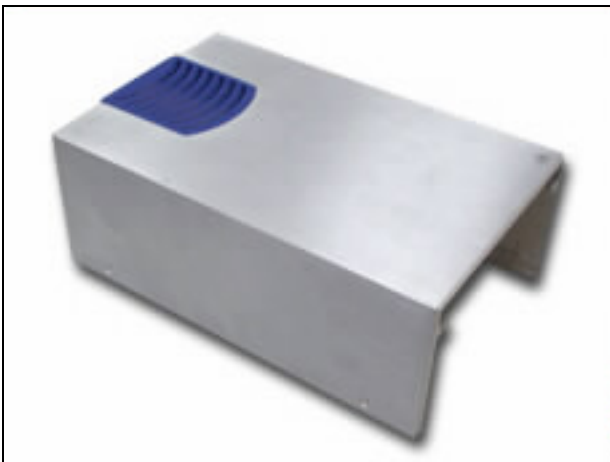
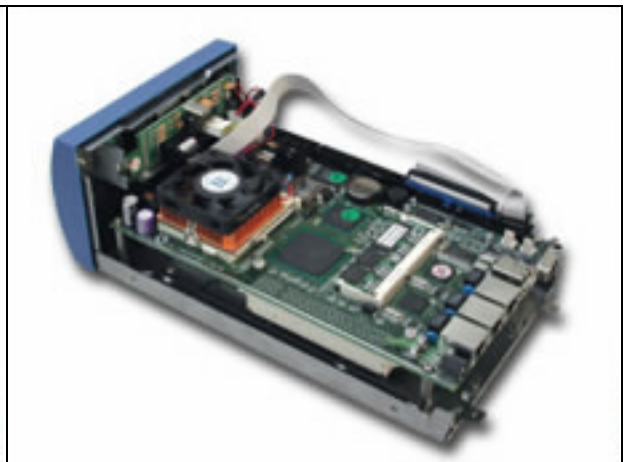

Fig. 2-10 The top lead
Fig. 2-11 The base stand
7. The top lead (*Fig. 2-10*) can be removed from the base stand (*Fig. 2-11*).